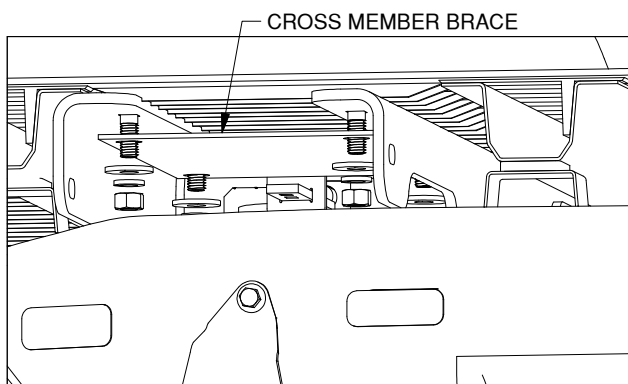

Figure C8: View looking into driver side wheel well.
7. **Install cross member brace.** The cross member brace will attach to both cross members with the four vertical carriage bolts. Pass the brace through the gap above the frame between the cross members in the driver side wheel well, see Figure C8. Attach the brace with four 1/2" flat washers, 1/2" lock washers, and 1/2" finish nuts. Do not fully tighten hardware at this time.